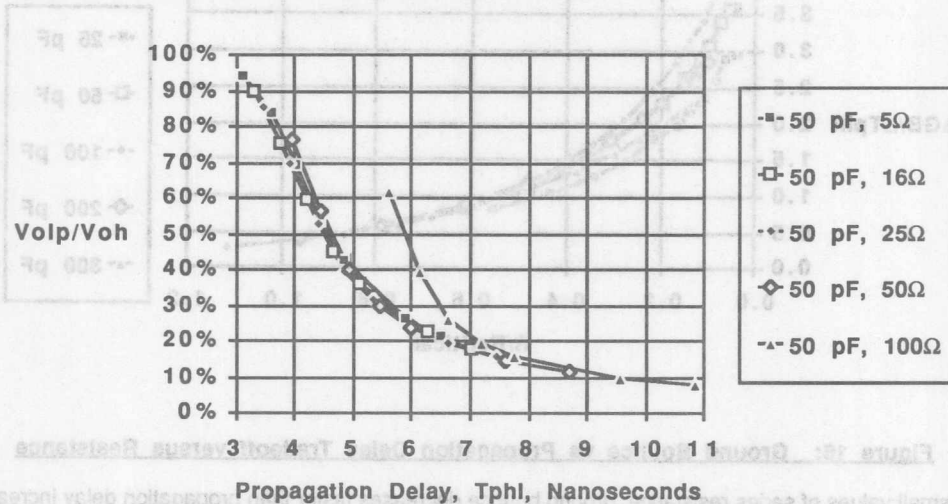

Figure 15: Propagation Delay vs Ground Bounce
Given the above data, we can plot propagation delay versus ground bounce. Figure 15 shows such a plot for the case of $V_{oh} = 3.5$ volts, $L = 13$ nanohenries and $C = 50$ pF/pin. In this figure, the main curve plots a relationship between ground bounce and propagation delay for various combinations of fall time (T_f) and series resistance (R).